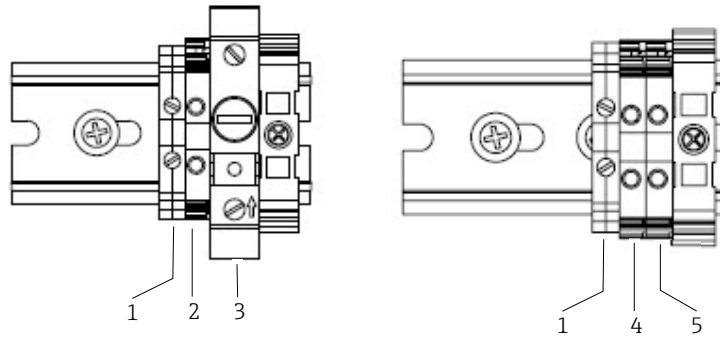

Figure 10: AC (left) and DC (right) connection terminal blocks in electronics enclosure
6. For AC systems, attach the neutral and hot wires to the power terminal block by connecting the neutral wire to the terminal marked “NEU” and the hot wire to the terminal marked “LINE” as shown in Figure 10. For DC systems, connect the negative wire to the terminal marked “-” and the positive wire to the terminal marked “+” as shown in Figure 10.